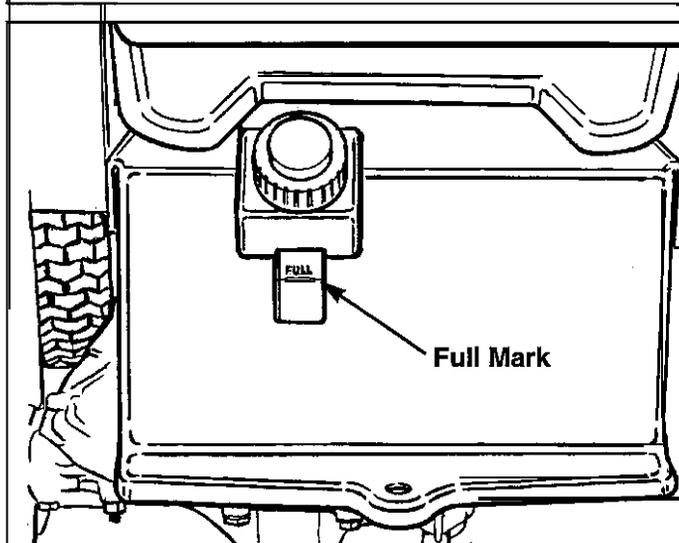

Figure 16. Transmission Oil Reservoir
1. Locate the reservoir tank on the rear of the unit. Observe the oil level. Oil should be up to the FULL mark (see Figure 16). **DO NOT OVERFILL.** Empty space is required in the reservoir tank for heat expansion.